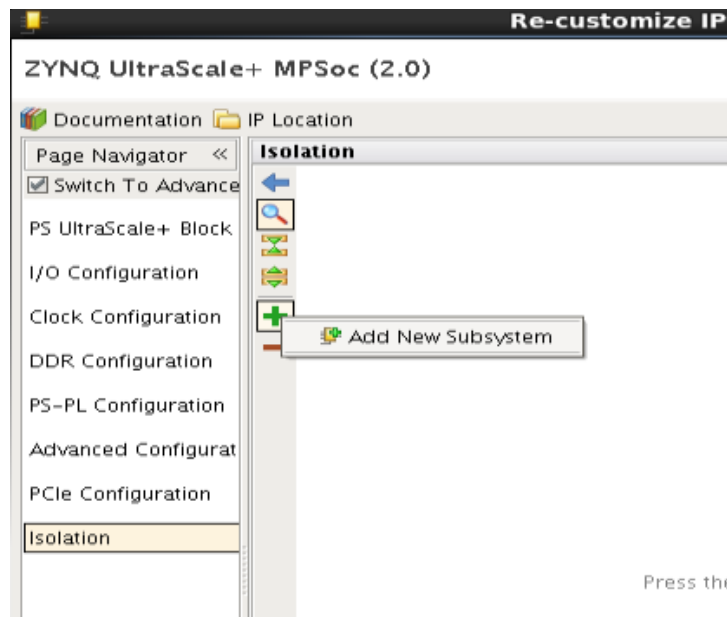

Figure 4-12: Creating a New Subsystem
1. Create a subsystem with any meaningful name using the "+" button as shown in Figure 4-12.